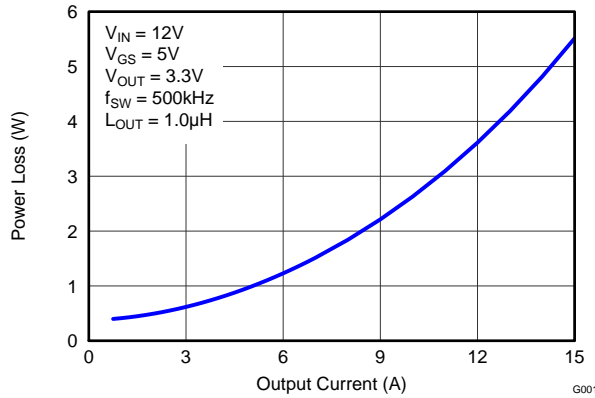
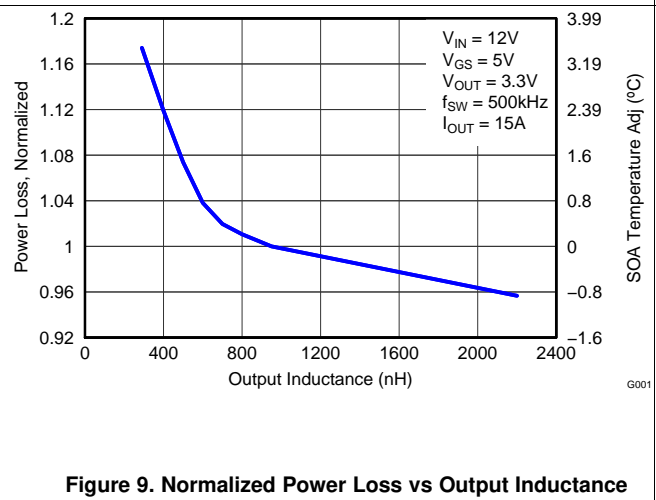
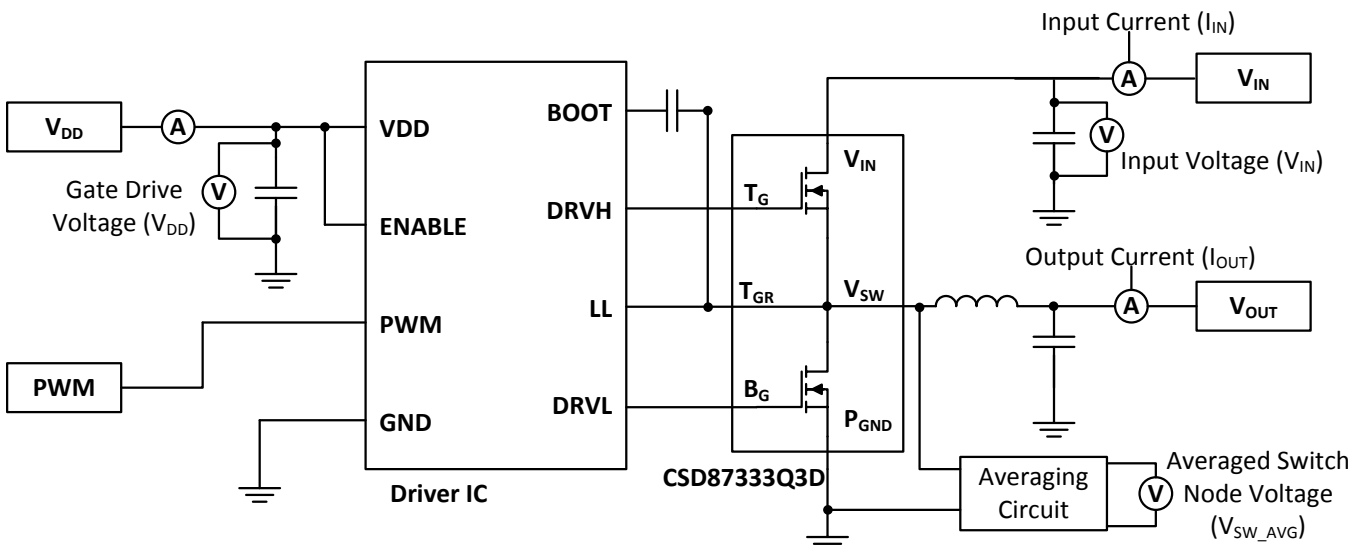

Figure 1. Power Loss vs Output Current
Figure 9. Normalized Power Loss vs Output Inductance
Figure 19. Typical Application
The typical power block system characteristic curves (Figure 1 through Figure 9) are based on measurements made on a PCB design with dimensions of 4 in (W) × 3.5 in (L) × 0.062 in (H) and 6 copper layers of 1-oz copper thickness. See Applications for detailed explanation.  $T_A = 125^\circ\text{C}$ , unless stated otherwise.
MOSFET centric parameters such as  $R_{DS(ON)}$  and  $Q_{gd}$  are needed to estimate the loss generated by the devices. In an effort to simplify the design process for engineers, Texas Instruments has provided measured power loss performance curves. Figure 1 plots the power loss of the CSD87333Q3D as a function of load current. This curve is measured by configuring and running the CSD87333Q3D as it would be in the final application (see Figure 19). The measured power loss is the CSD87333Q3D loss and consists of both input conversion loss and gate drive loss. Equation 1 is used to generate the power loss curve.
The power loss curve in Figure 1 is measured at the maximum recommended junction temperatures of 125°C under isothermal test conditions.
- Power loss at 10 A = 2.6 W (Figure 1)
- Normalized power loss for output inductor  $\approx$  1.03 (Figure 9)
- SOA adjustment for output inductor  $\approx$  0.8°C (Figure 9)